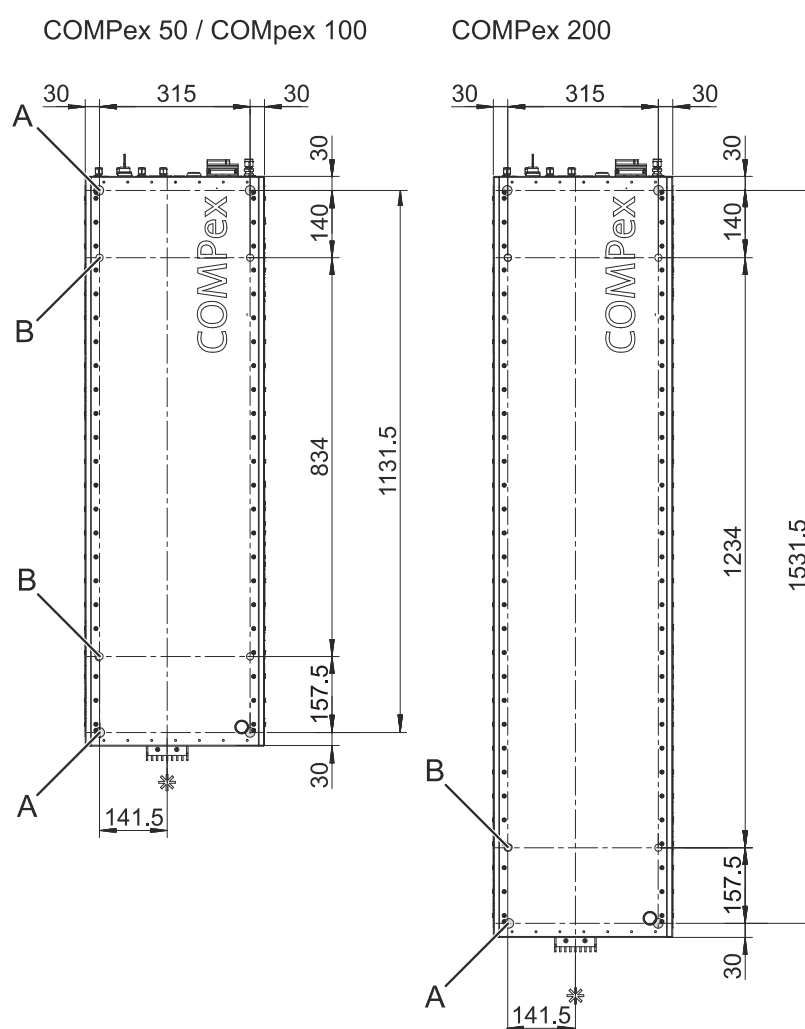

Figure 12: Position of anchoring device location holes
Figure 12 indicates the positions of the holes (A) in relation to the beam exit position, sides of the housing and laser device feet (B). For further information about the location and configuration of the feet, please refer to Section 4.6.2.